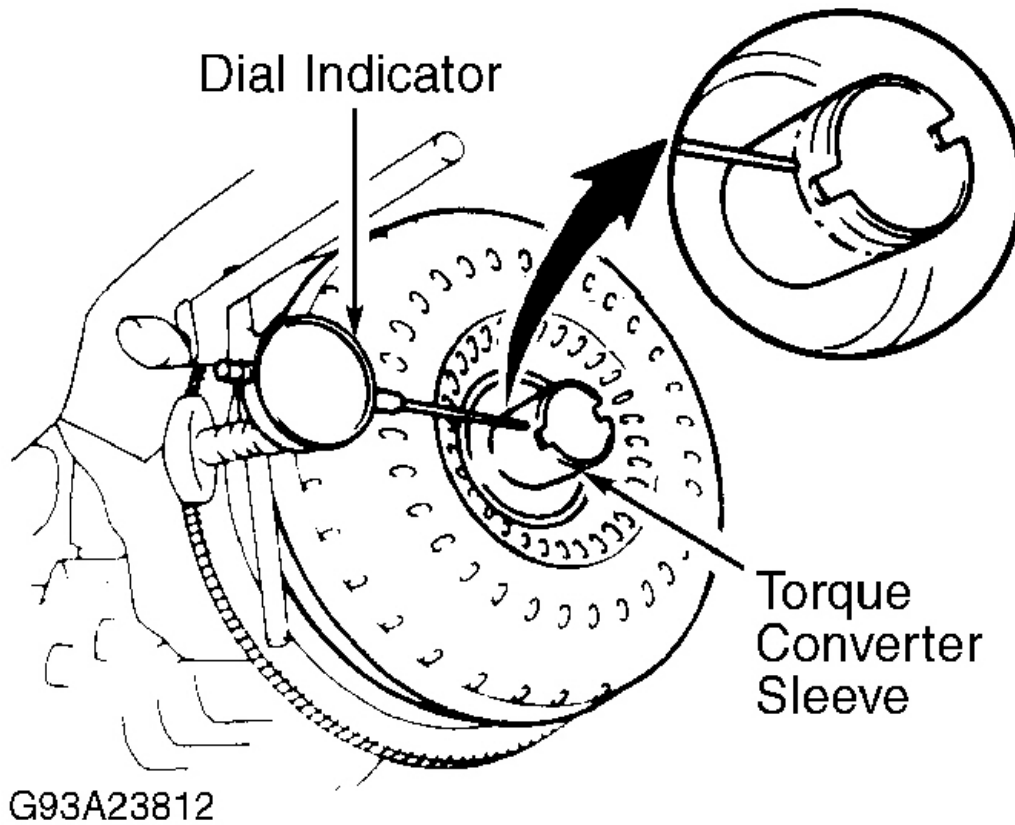

Fig. 11: Checking Converter Sleeve Runout
1. Temporarily mount torque converter to drive plate. Mount a dial indicator with needle resting on converter sleeve. See **Fig. 11** . Rotate converter. If runout exceeds .012" (.30 mm), ensure converter is properly mounted to drive plate.